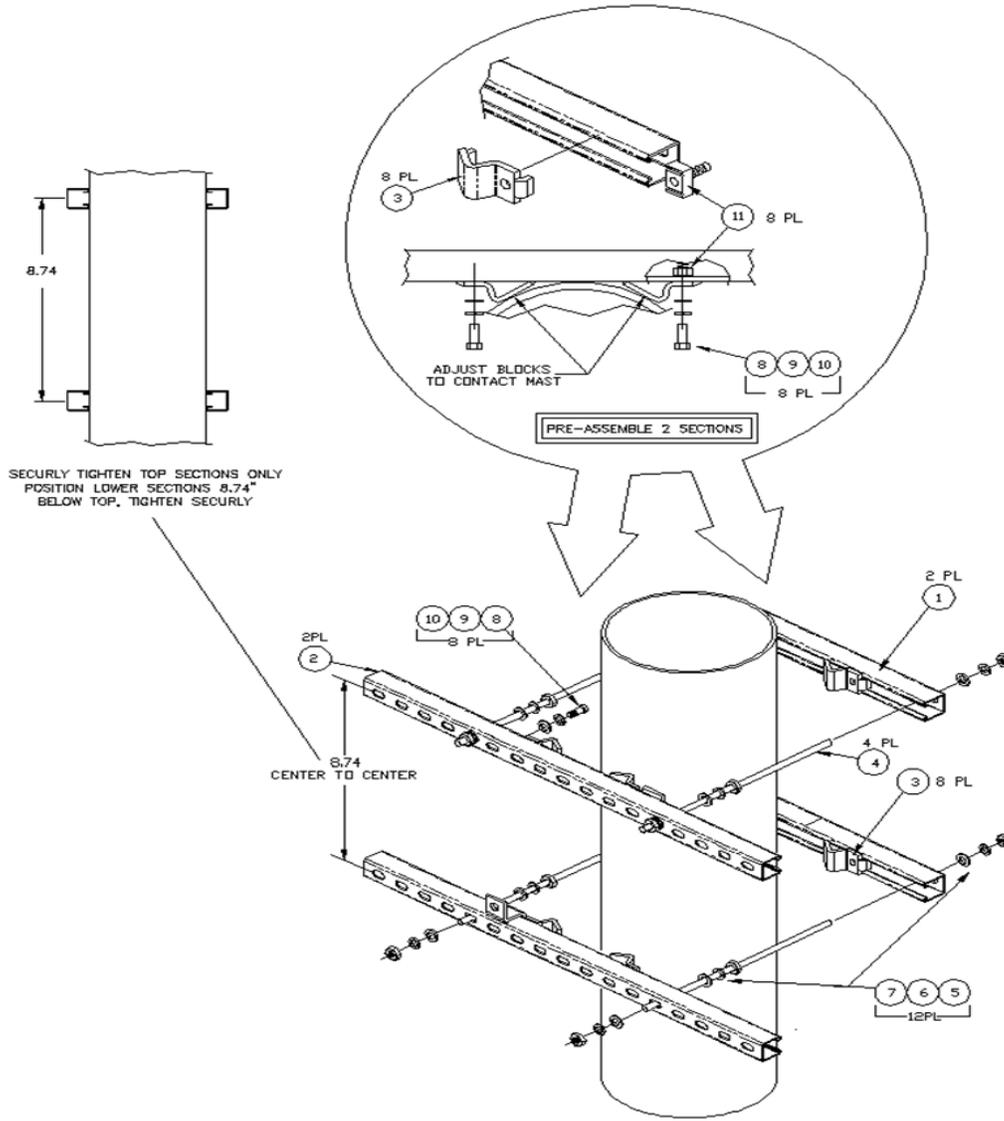

Figure 4-1 Antenna Mounting Kit
The diagrams in this section display the OMS11 and OM20s mounted on the Antenna King Post as shown in figure 4-1 and 4-2. The cables supplied in the base system are based on this layout utilizing the mounting kit supplied by Radyne.
1. Install OMS11/OM20 Mounting kit as shown in Figure 4-1 and Table 4-1. This displays the optional Radyne unistrut mounting kit for antenna kingpost mounting.